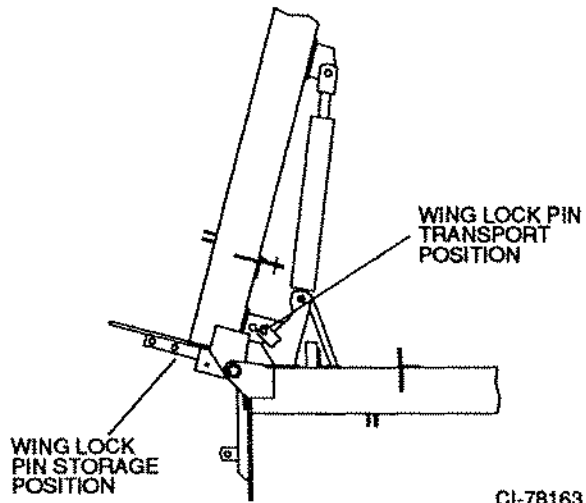

FIG. 1
**NOTE: BEFORE RAISING OR LOWERING WINGS, BE SURE WING LOCK PINS HAVE BEEN REMOVED AND PROPERLY STORED. (See Fig. 1)**